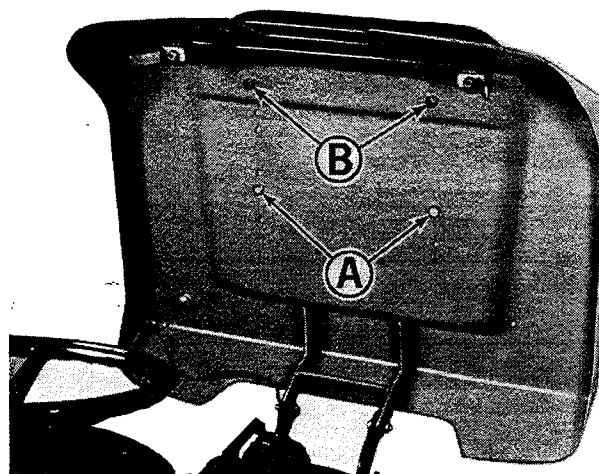
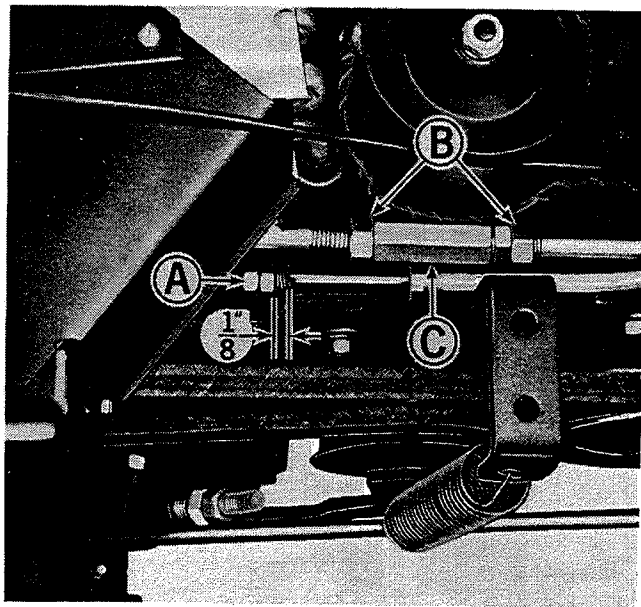

Figure 9. Seat deck raised.
Figure 10. Clutch free travel and hydrostatic transmission neutral adjustment.
locks out raise the seat deck as shown in figure 9. Raising the seat deck in this manner will expose many of the transmission adjustment and maintenance areas.
See figure 9. The tractor seat is properly adjusted when the operator can comfortably operate the clutch and brake pedal while sitting back in the seat. The seat can be adjusted forward or back in any of four positions. If adjustment is required, proceed as follows:
1. See figure 9. Position the seat deck as shown by following the instructions under Raising the Seat Deck on page 10.
2. Remove the two cap screws and lock washers at (A).
3. Remove the two nuts and lock washers at (B).
4. If the seat is to be positioned in either of the two forward sets of mounting holes the two rubber spacers are placed over the studs at (B) and used between the seat and seat deck. If
See figure 10. The clutch free travel is correct when there is 1/8" between the nuts (A) and the rod guide when the clutch brake pedal is released and pulled rearward as far as it will go. If adjustment is required, proceed as follows:
1. Raise the seat deck as shown in figure 9, by following the instructions under Raising the Seat Deck on page 10.
2. Using two wrenches hold the forward nut at (A) stationary with one wrench while turning the rearward nut counterclockwise slightly with the other to separate them.
4. Turn the forward nut at (A) as necessary so that the distance between it and the rod guide is 1/8" as shown in figure 10.
5. Using two wrenches hold the forward nut at (A) stationary while turning the rear one clockwise to tighten the two nuts together securely.
3. See figure 10. Loosen the two locking nuts (B) on either end of turnbuckle (C).
7. Jack up and block the rear of the tractor, so the rear wheels are free to turn. Use an open end wrench to rotate the turnbuckle (Figure 10, item C) until the rear wheels do not rotate. When the rear wheels do not rotate when the engine is running at 1/3 full speed, the hydrostatic neutral adjustment is correct.
9. See figure 10. After allowing the belt and pulleys to stop turning, use two wrenches to tighten the locking nuts (B) against turnbuckle (C). Tighten the locking nuts (B) one at a time, while using the other wrench to hold turnbuckle (C) from rotating.